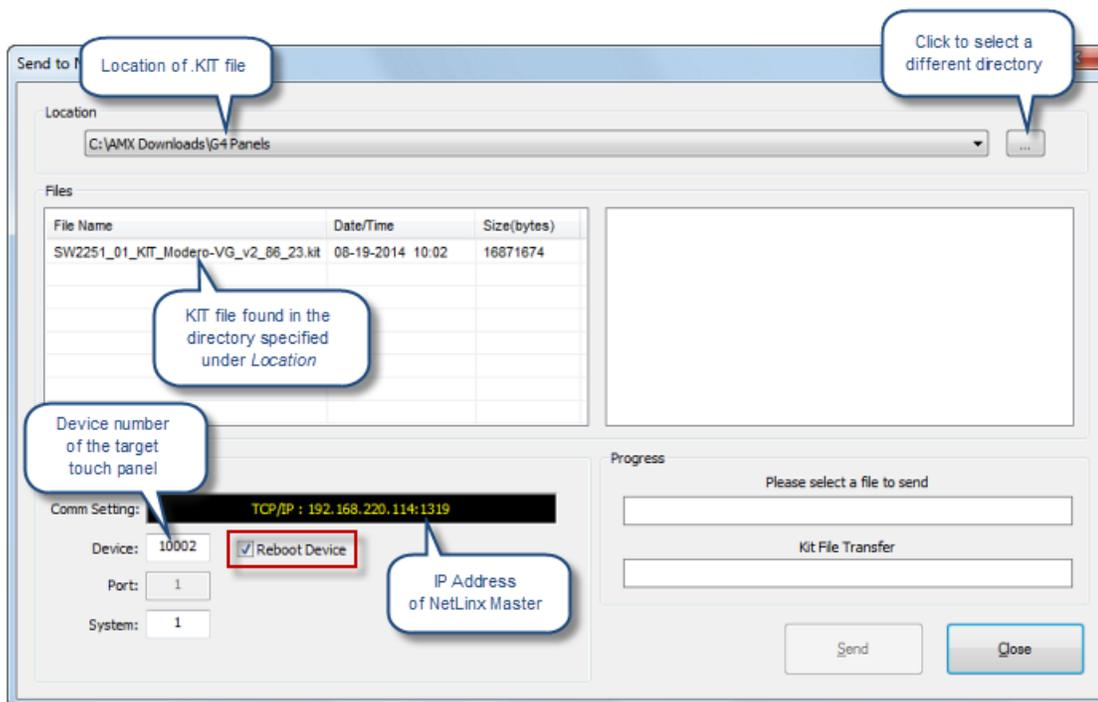

FIG. 40 NetLinx Studio - Send to NetLinx Device dialog
- Right-click on the target panel and select **Firmware Transfer** to open the *Send to NetLinx Device* dialog. Alternatively, select **Tools > Firmware Transfers > Send To NetLinx Device** to open this dialog (FIG. 40):